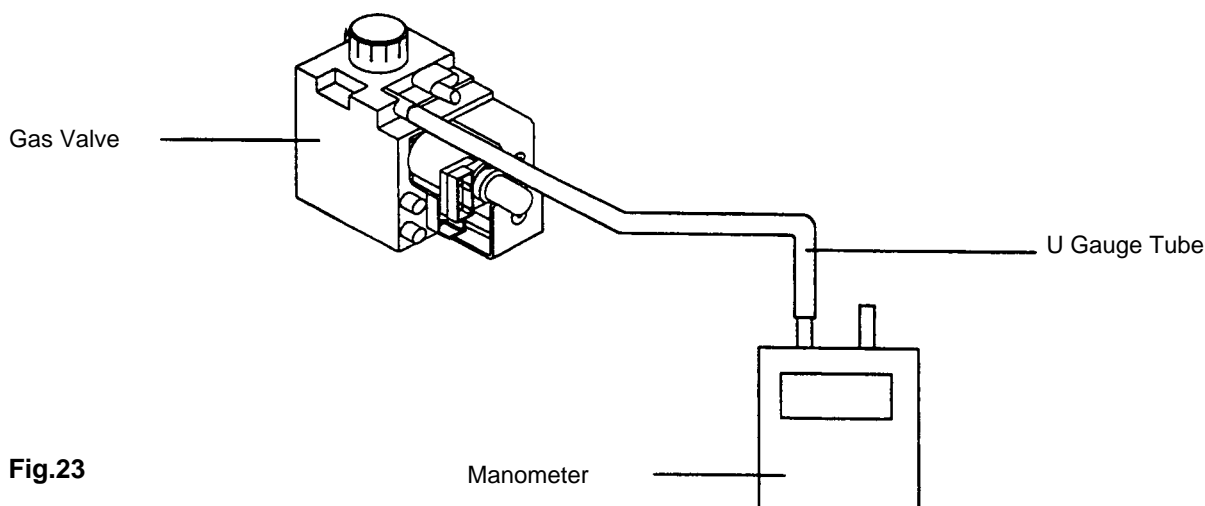

Fig.23
6.6.3 Locate the main burner pressure test point (Fig. 20) and slacken the screw half a turn in an anti clockwise direction. Attach a suitable U gauge tube between the test nipple and manometer (see fig. 23).